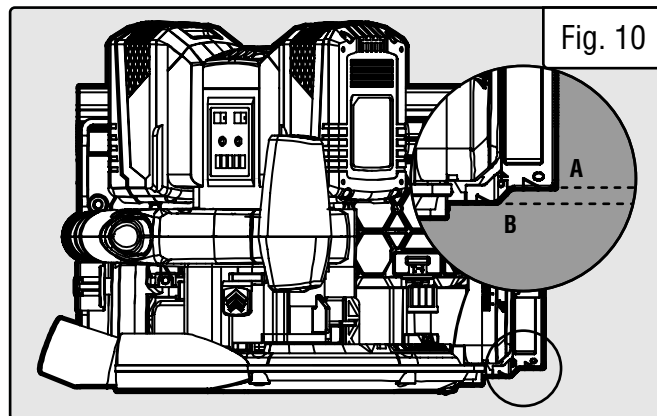

Fig. 10
1. Mark your cut on your workpiece. Locate the line-of-cut indicators (Fig. 10) on the front and back of the base plate.